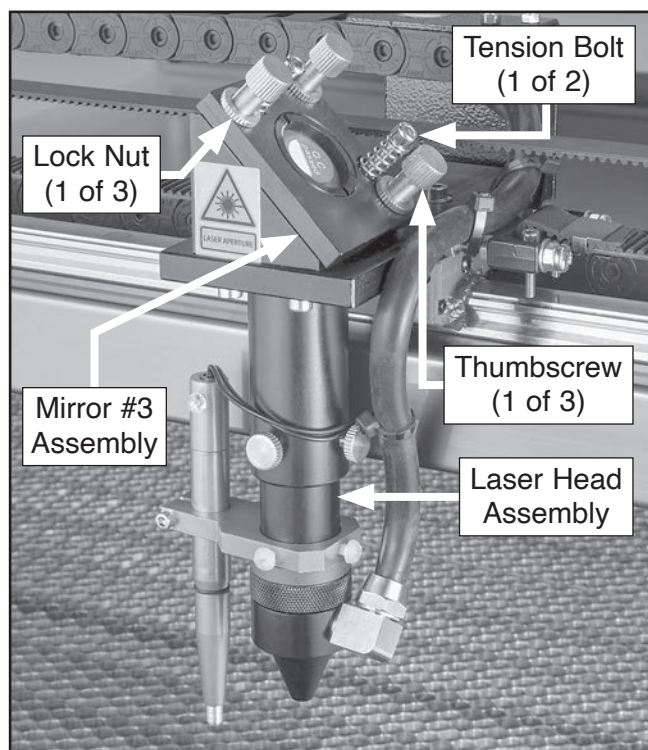

Figure 115. Mirror #3 assembly components.
30. Loosen lock nuts on (3) brass thumbscrews located behind Mirror #3 assembly (see **Figure 115**).